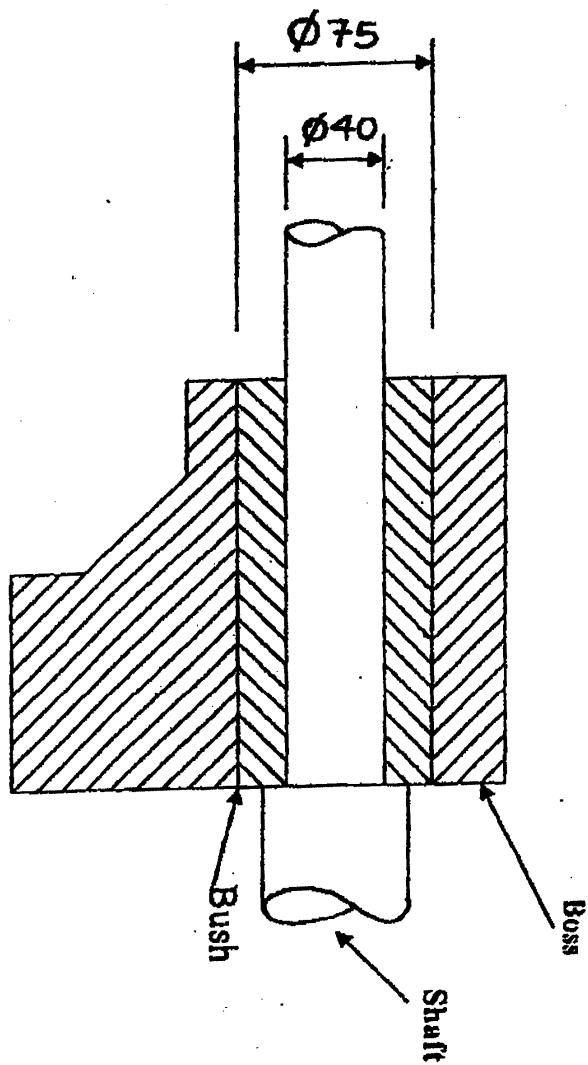

Fig. Q4
- (b) Fig. Q4. Shows a sectional assembly of a boss, a bush and a shaft. Normal fit exists between the shaft and bush while press fit exists between the bush and the boss.